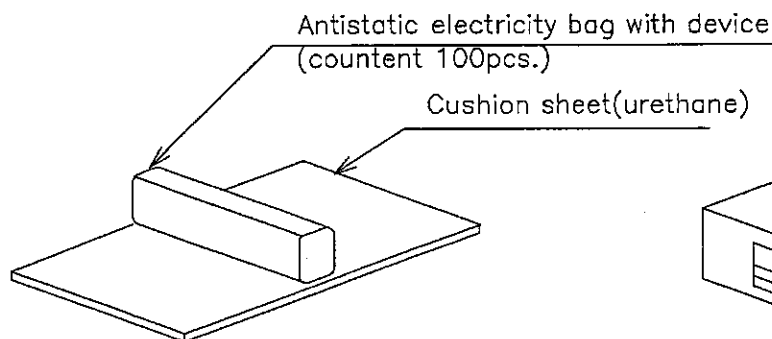

Fig.2
2. A pack (item1) should be wrapped by cushion sheet (urethane). And five packs should contain in one box. (Fig. 2 , Fig. 3)